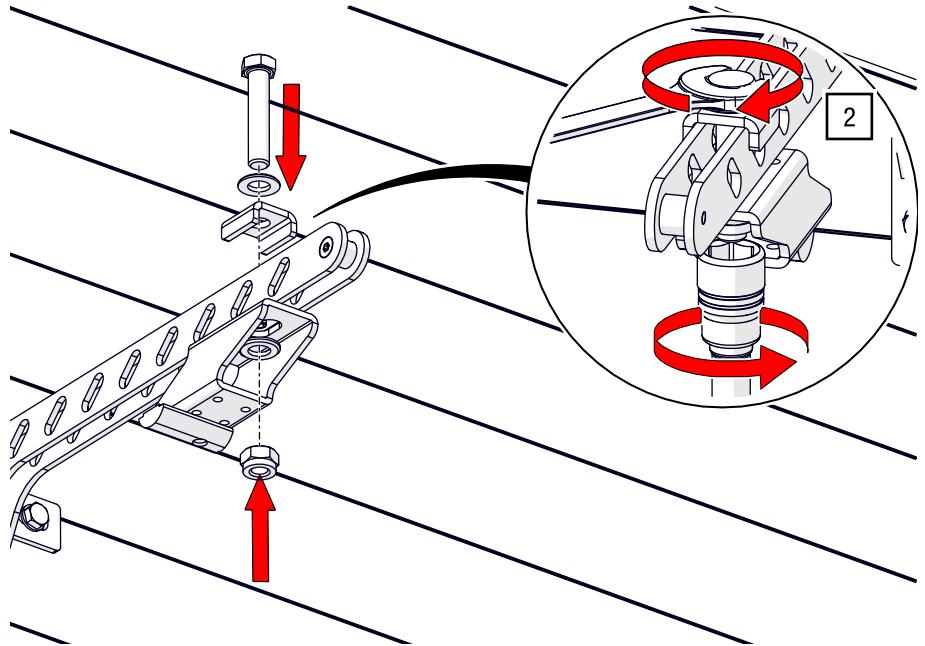

Fig. 56: Wall mount bracket – Screw loosely pre-assembled suspension to the wall mount bracket
2. Screw the pre-assembled suspension and the wall mount bracket together at the required distance using a ratchet with socket AF 17 (see Fig. 56).